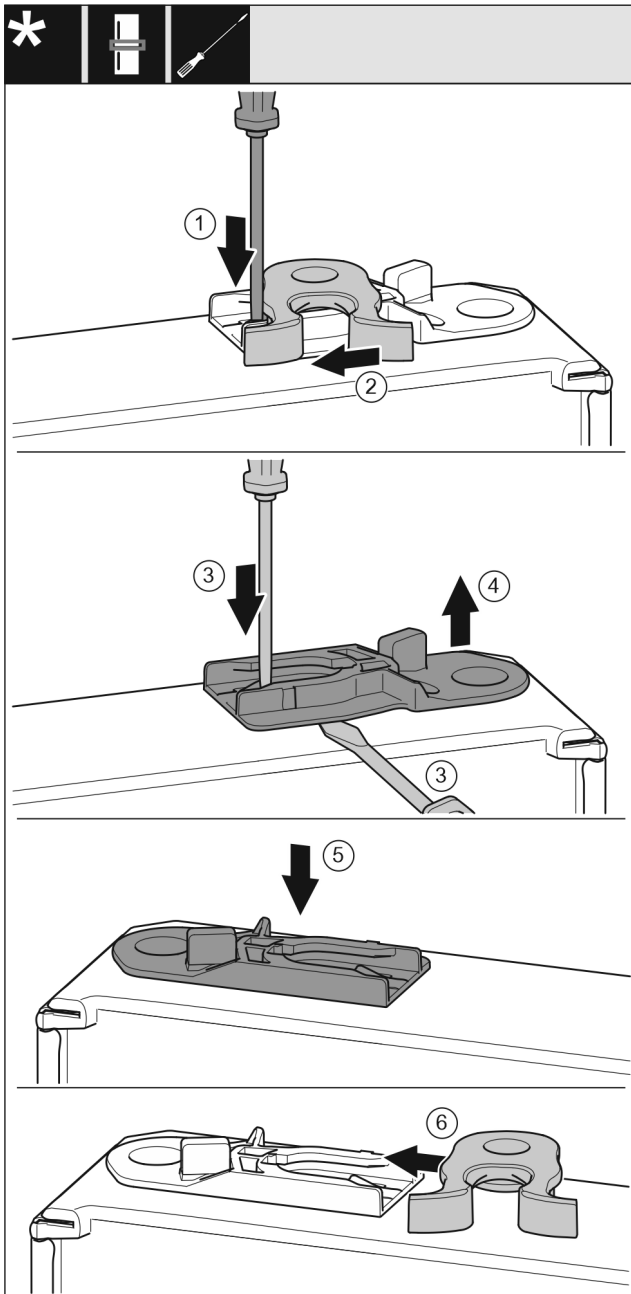

Fig. 52 \*
- ▶ Use a slotted screwdriver to push the tab Fig. 52 (1) downwards.\*
- ▶ Pull the closing hook Fig. 52 (2) out of the guide.\*
- ▶ Pull out the guide bush Fig. 52 (3, 4): Press the tab with a flat-blade screwdriver and at the same time move the flat-blade screwdriver under the guide bush.\*
- ▶ Insert the guide bush Fig. 52 (5) supplied on the other side of the housing.\*
- ▶ Slide the closing hook Fig. 52 (6) into the guide.\*